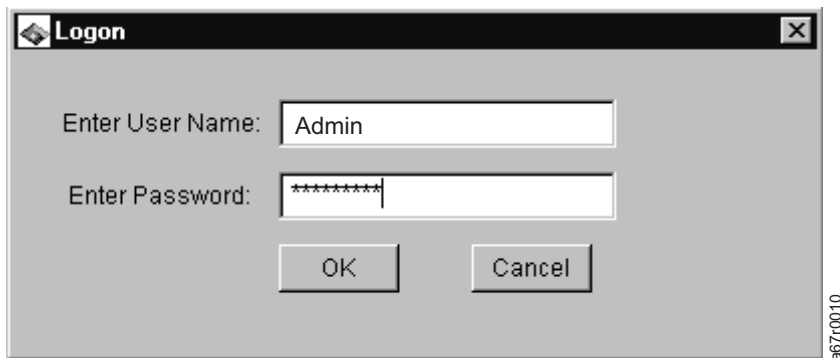
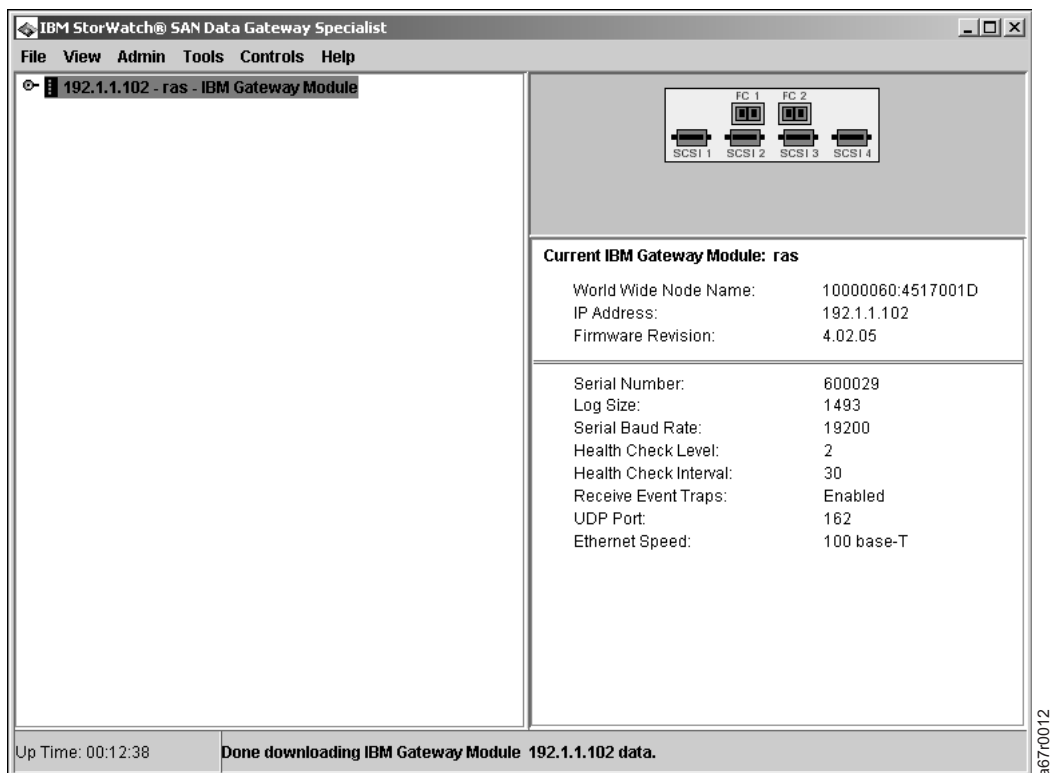

Figure 14-71. Logging on to the Server
Figure 14-72. Initial Tree View
- ___ 5. To log on, type "Admin" in the Enter User Name field and type "password" (or current password) in the Enter Password field, then click OK. Refer to Figure 14-71 and Figure 14-72.